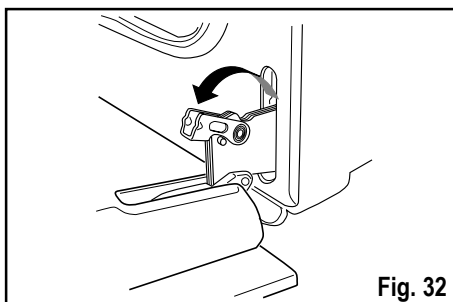

Fig. 32
2. Unlock and turn the small levers located on the two hinges (Fig. 32).